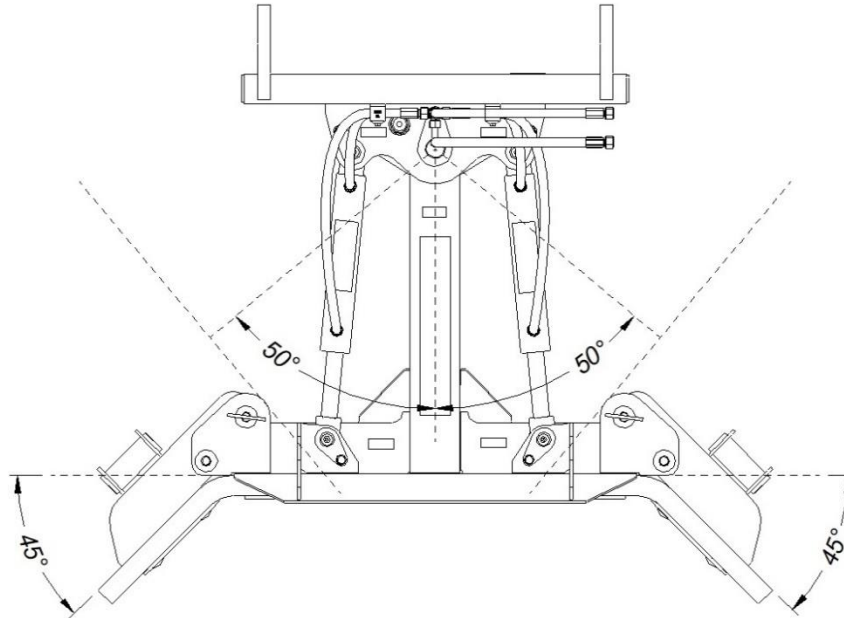

Fig. 3 Plough settings relative to the travel axis.
Both ends of the blade, can be turned through an angle of 45° Fig. 3, by means of pivoting supports (3), which are locked with pins (2). Holes in the tubes can be used for this, into which a steel rod must be inserted. A parking jack (5) is embedded in the frame, which has to be lifted up for plough operation and secured with a pin.
The design allows the plough angle to be adjusted to the driving axis in 3 positions from +50° to -50° Fig. 3